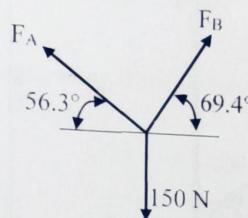

Fig 2.4
- 1) Draw Free body diagram of a lamp weighing 150 N is supported by two cables AC and BC. (Ans: Fig 2.4)